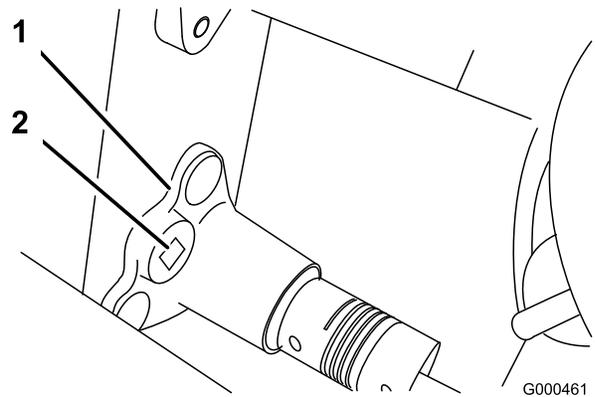

Figure 43
- B. Using a $3/8$ inch drive torque wrench, rotate the bearing housing with 35-40 in.-lb. (4-4.5 N-m) of torque to set belt tension (Figure 43).